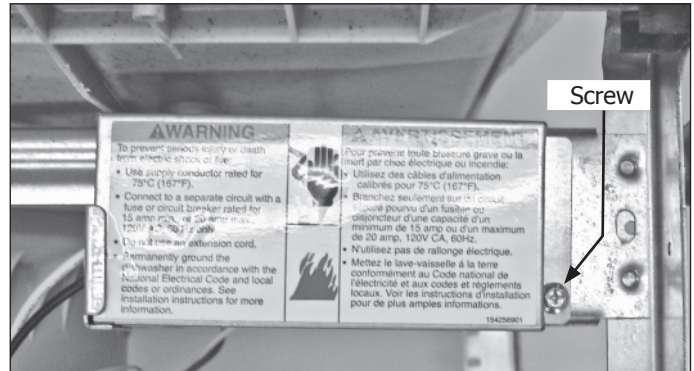

Figure 4-28.
3. Extract the screw securing the junction box cover to front cross brace. (See Figure 4-28)